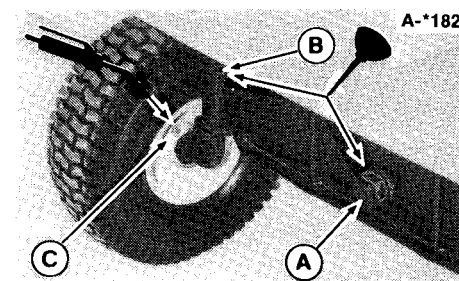

Figure 3. Front Axle
2. With an oil can, lubricate the front spindles (one on each side) and mid pivot point (figure 3).
3. With a grease gun, apply one or two shots of lithium based automotive grease to the two grease fittings (one in each front wheel). See figure 3.